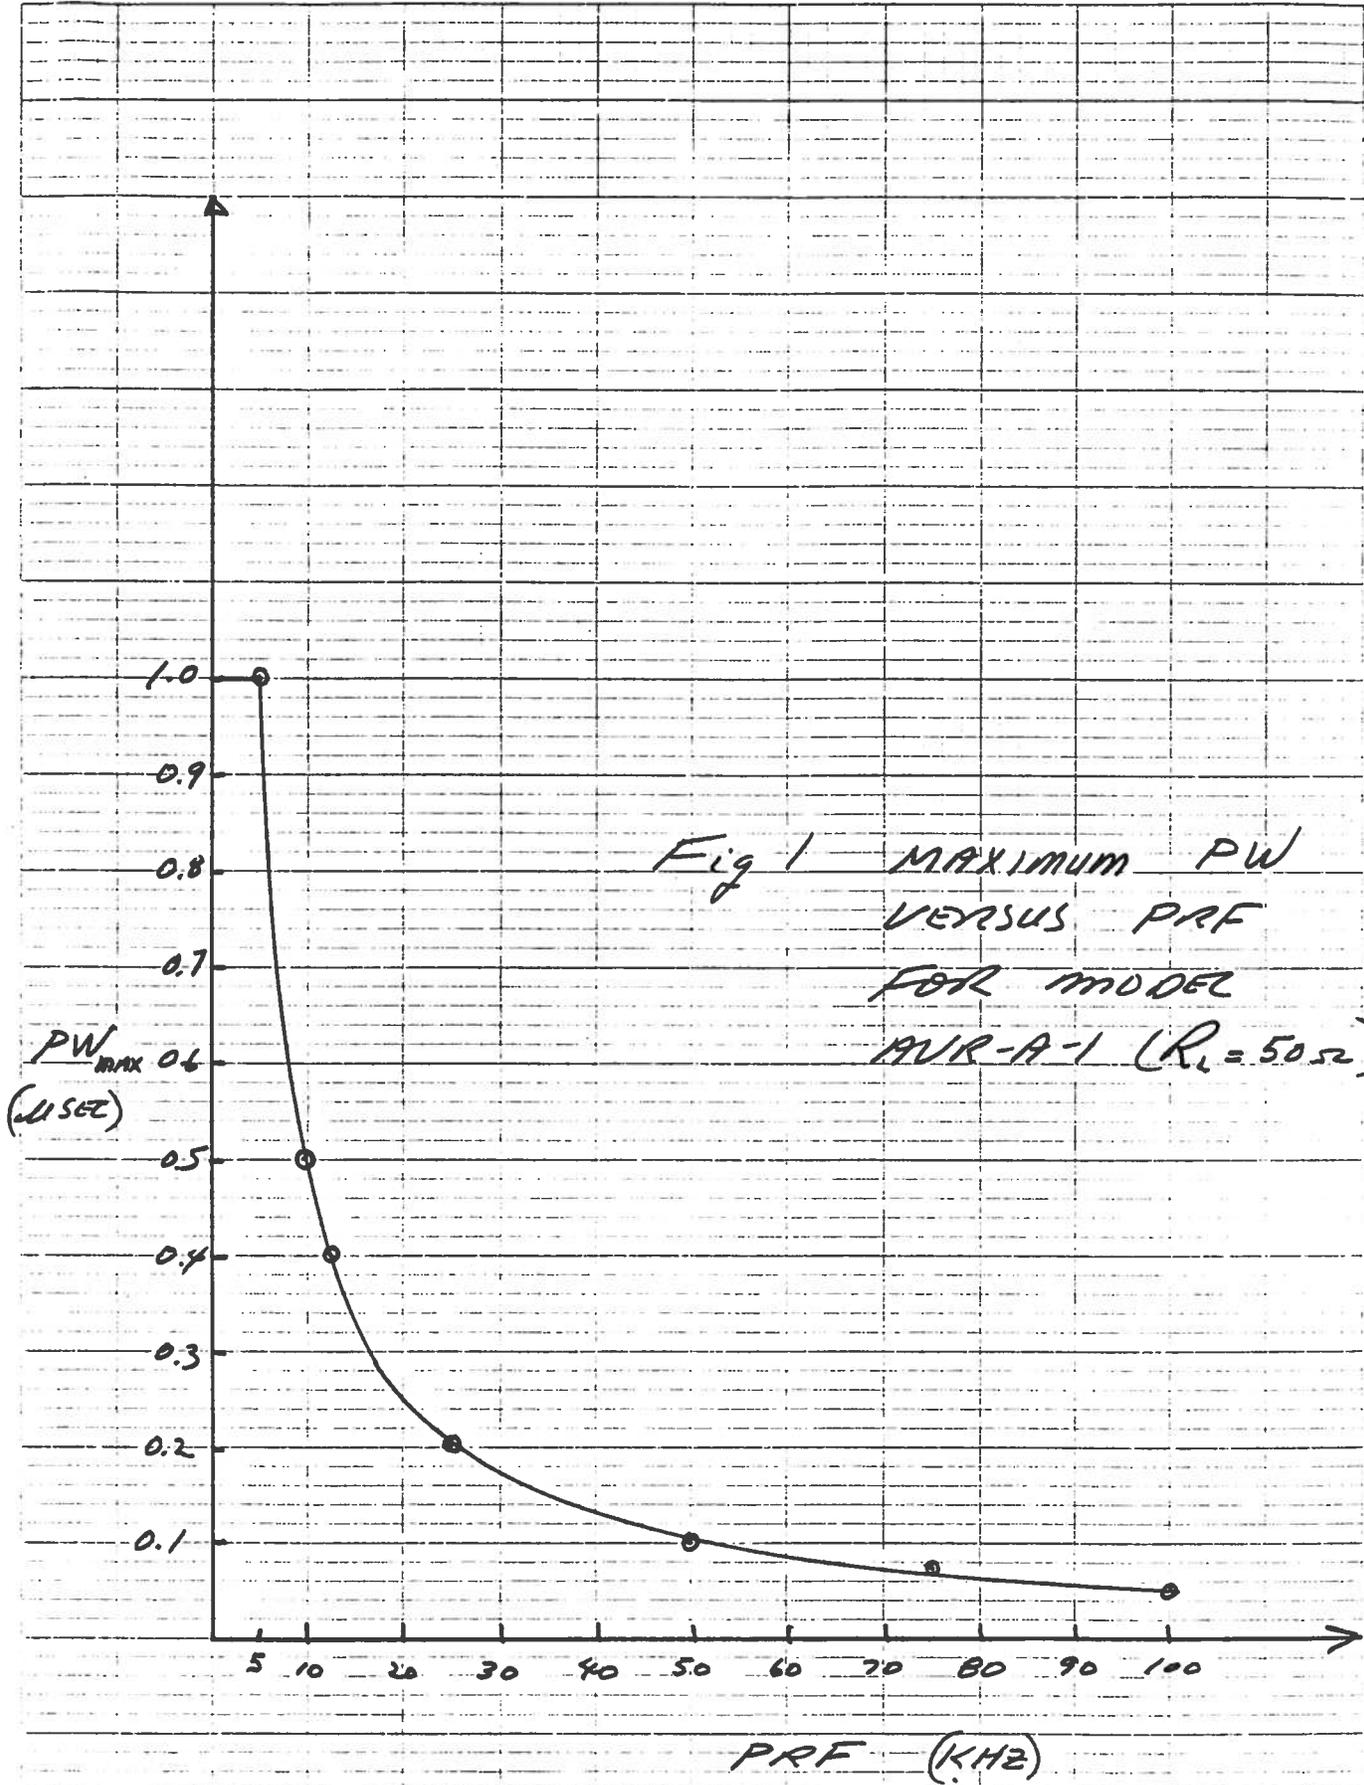

Fig 1 MAXIMUM PW
- 5) Under simultaneous conditions of wide pulse width, high PRF and high load current, the bias voltage applied to the output power stage decreases and as a result the attainable output peak voltage decreases to less than 200 Volts, and in severe cases, the output stage of the unit may be damaged. CAUTION: Under no circumstance must the duty cycle exceed 0.5%. Failures due to high duty cycle operation are not covered by the warranty. The maximum allowable PW as a function of PRF for a 50 Ohm load is shown in Fig. 1.